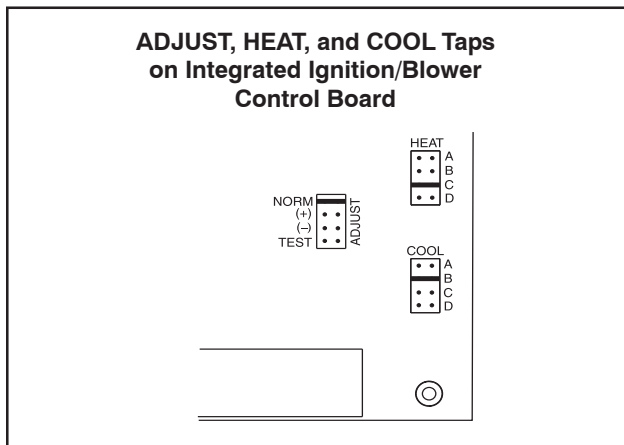

Figure 37
Refer to Figure 37 for field wiring and Figure 38 for schematic wiring diagram and troubleshooting.
7. One line voltage "EAC" 1/4" spade terminal is provided on the furnace integrated control. Any electronic air cleaner or other accessory rated up to one amp can be connected to this terminal with the neutral leg of the circuit being connected to one of the provided neutral terminals. See Figure 37 for control configuration. This terminal is energized when the indoor blower is operating.
8. One line voltage "HUM" 1/4" spade terminal is provided on the furnace integrated control. Any humidifier rated up to one amp can be connected to this terminal with the neutral leg of the circuit being connected to one of the provided neutral terminals. See Figure 37 for control configuration. This terminal is energized in the heating mode whenever the combustion air inducer is operating.
The units are factory set for the highest airflow for each model. Adjustments can be made to the cooling airflow by repositioning the jumper plug marked COOL – A, B, C, D (see Figure 37). To determine what CFM the motor is delivering at any time, count the number of times the amber LED on the control board flashes. Each flash signifies 200 CFM; count the flashes and multiply by 200 to determine the actual CFM delivered (for example: 5 flashes x 200 = 1000 CFM).
These units are factory set to run at the middle of the heating rise range as shown on the unit rating plate. If higher or lower rise is desired, reposition the jumper plug marked HEAT - A, B, C, C (see Figure 37) . To determine what CFM the motor is delivering at any time, count the number of times the amber LED on the control board flashes. Each flash signifies 200 CFM; count the flashes and multiply by 200 to determine the actual CFM delivered (for example: 5 flashes x 200= 1000.
Airflow amounts may be increased or decreased by 10% by moving the ADJUST jumper plug (see Figure 37) from the NORM position to the (+) or (-) position. Changes to the ADJUST tap will affect both cooling and heating airflows. The TEST position on the ADJUST tap is not used.